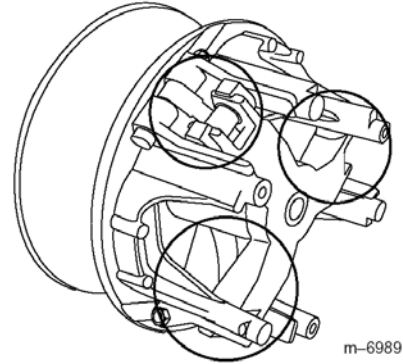

Figure 3
- Lubricate the moving parts in the areas circled in Figure 3 using Toro Dry Lubricant Spray, available through your Authorized Toro Dealer or Distributor.